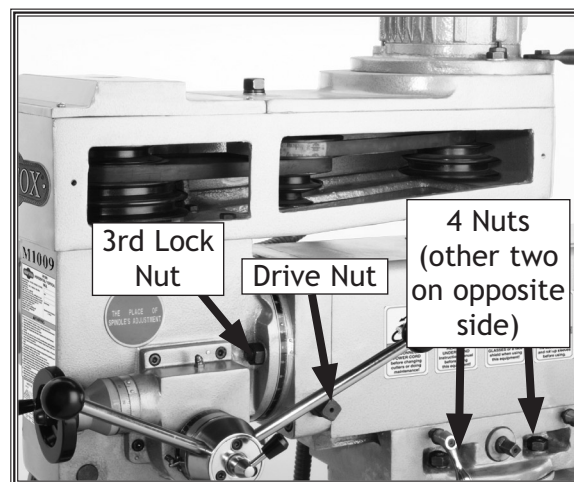

Figure 15. Controls for tilting and swiveling spindle head.
4. Rotate the drive nut (**Figure 15**) either clockwise or counterclockwise until the spindle is tilted to the desired angle, as displayed on the graduated scale.
2. Using a wrench, loosen the four nuts at the top of the mill base (**Figure 15**).
4. Rotate the drive nut (**Figure 15**) either clockwise or counterclockwise until the spindle head is tilted 90° .
5. Using a wrench, loosen the four nuts at the top of the mill base (**Figure 15**).